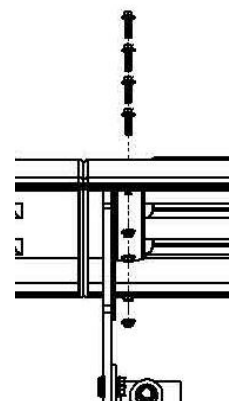

Figure 11
F. Drill four 5/16" holes through the fender using the holes in bracket PB5071 as a guide (Figure 11).